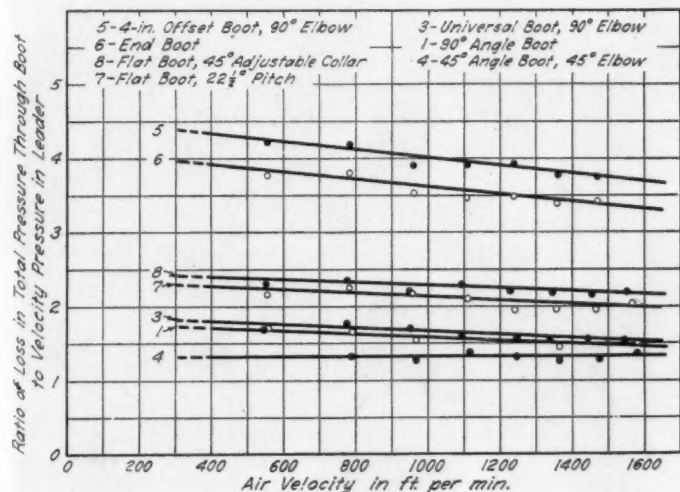

FIG. 12. RESISTANCE OF BOOT FITTINGS
*Based on Fig. 12, at velocity of 300 ft. per min.
ratio is general in that it is applicable to any size of boot, while the loss in terms of inches of water is applicable only to the size of boot tested. The pressure loss ratio over a wide range of air velocities is shown in Fig. 12 for the various boots tested. It may be observed that the curves fall into two distinct groups, with the curves for the group consisting of Boots Nos. 5 and 6 lying considerably higher than for those in the group containing Boots Nos. 1, 3, 4, 7, and 8. It should be further noted that Boots Nos. 3 and 8 correspond with those used in the original single-leader gravity furnace tests, on which the tables in Appendix A were based. (April issue.)
A velocity of 300 ft. per min. was selected as representative of velocities existing in gravity furnace plants and the ratios of total pressure loss to velocity pressure loss in the leader pipe, as read from the curves in Fig. 12 at this velocity, are shown in Table 18. Corresponding values, expressed in terms of equivalent diameters of leader pipe and equivalent numbers of 90-degree